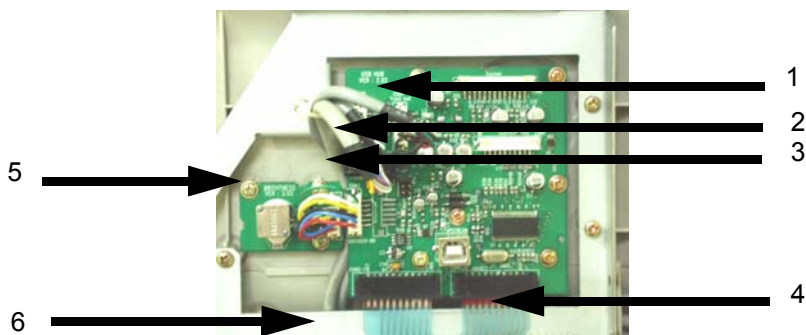

Figure 8-40 Disconnect 6 connectors
- 2.) Disconnect six (6) connectors (1-6) from the HUB Board Assy. Refer to section Figure 8-40 on page 27.